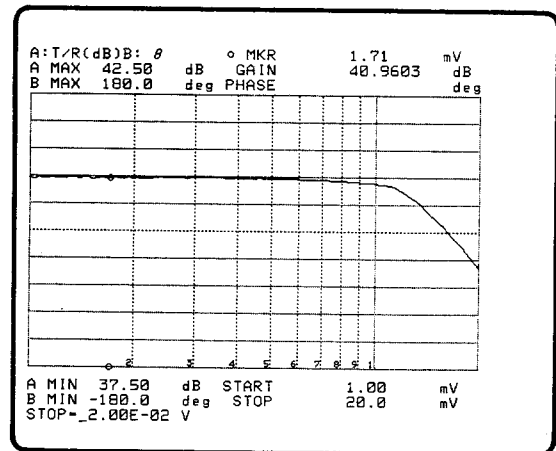

Figure 3-66. OSC Level(V) Sweep
**OSC LEVEL (V):**
This softkey is used to select level (V) as the sweep the test parameter. When this key is selected the units in parameter area on the screen are displayed as shown in Figure 3-66.